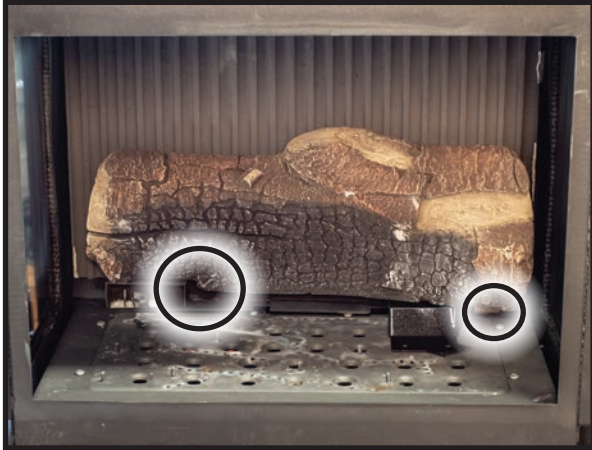

Figure 51. Log #8 Placement
The placement of the logs is not arbitrary. If they are positioned incorrectly, the flames can be “pinched” and will not burn correctly. All of the logs either locate on burner pins or a notch, which make alignment easier. Using the pictures provided, carefully set the logs in place (see Figures 51 through 62).
1. Place Log #8 on top of the pilot shield (left side) and the log rest (right side) at the rear of the firebox. Slide the log left until it contacts the finger stop next to the pilot shield (Figure 51).